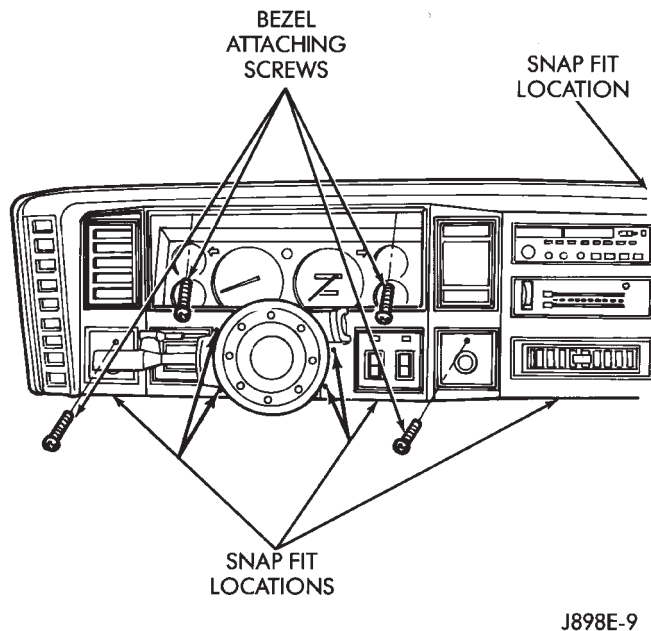

Fig. 1 Instrument Bezel
- (1) Disconnect negative cable from battery.
- (2) Remove the instrument panel bezel attaching screws and remove the instrument panel bezel (Fig. 1). Bezel is snap fit at locations shown.